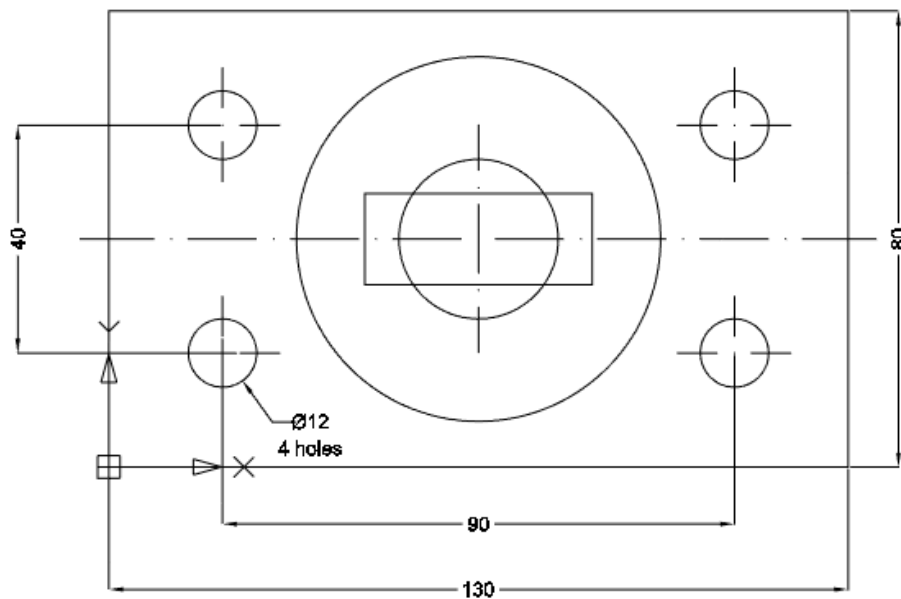

Fig. 8. Draw a circle
6.1. Draw a circle with radius 14 (fig. 8):